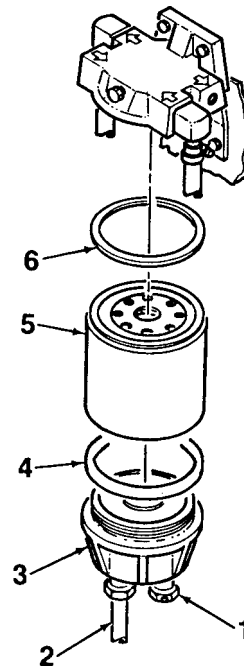

Figure 4-43. Filter Servicing
2. Open filter / separator drain valve (1, Figure 4-43) and drain fluid through hose (2). Close valve (1) and disconnect hose (2) when drained.
3. Using a filter wrench, unscrew clear bowl (3) and filter (5) from filter head. Remove gasket (6).
4. Remove filter (5) from bowl (3). Remove gasket (4) and drain excess fuel.
5. Install new filter (5) and gasket (4) onto bowl (3).
6. Install bowl (3), filter (5), and gasket (6) onto filter head. Hand tighten.
7. Connect hose (2) to bowl (3) and close drain valve (1).